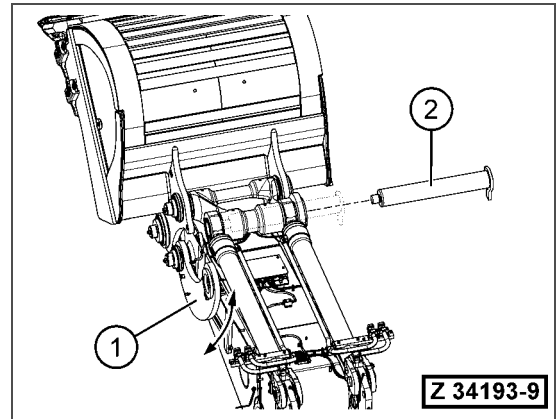
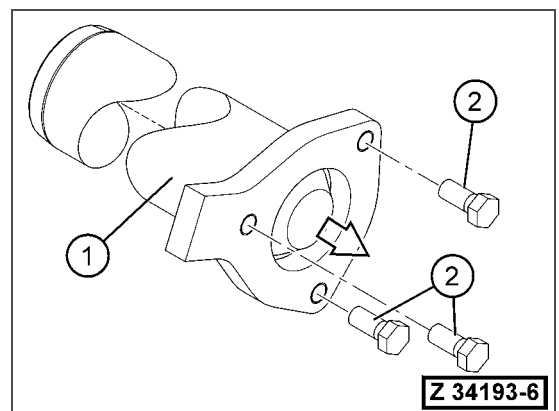

Fig. 5-123
Fig. 5-124 Exemplaric sketch
21. Pull out the pin (Fig. 5-123, Pos. 2) connecting the bucket cylinders to the bucket link rod (Refer to Fig. 5-124.)
22. Swivel down the steering rod(s) (Fig. 5-123, Pos. 1) using the crane.
REMARKS: Use three puller bolts (Fig. 5-124, Pos. 2) in the threads at the pin (Fig. 5-124, Pos. 1) to pull the pin out of the pin bearing.